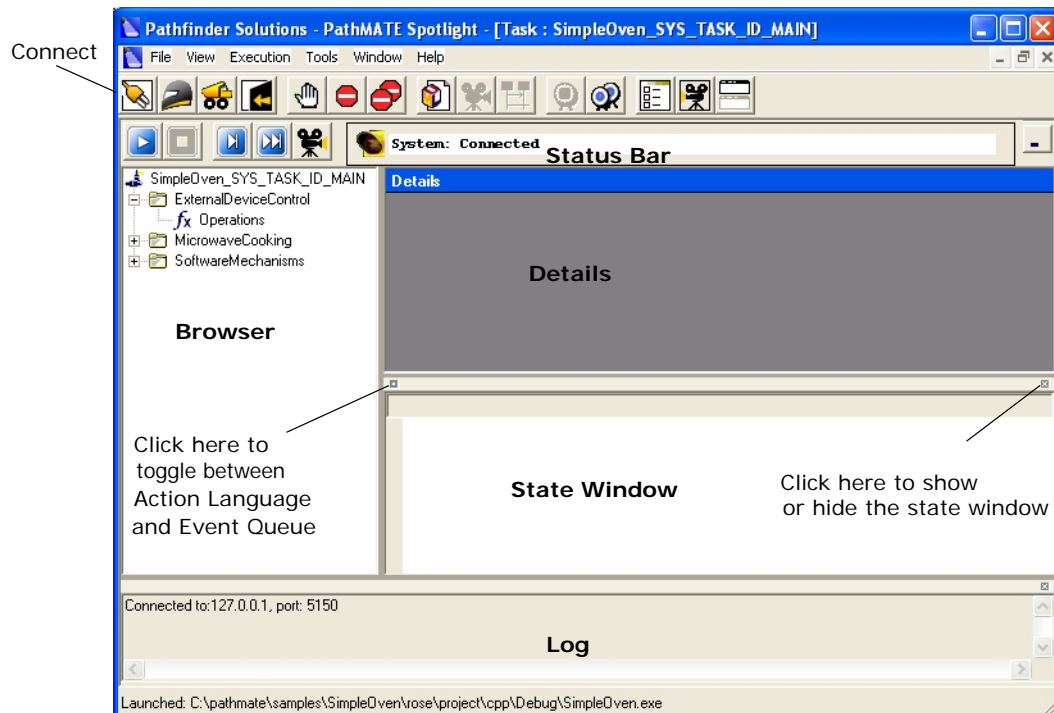

Figure 4-1. Spotlight Successfully Connected
3. Click the Connect icon at the left end of the toolbar to connect Spotlight to the target application (Figure 4-1).